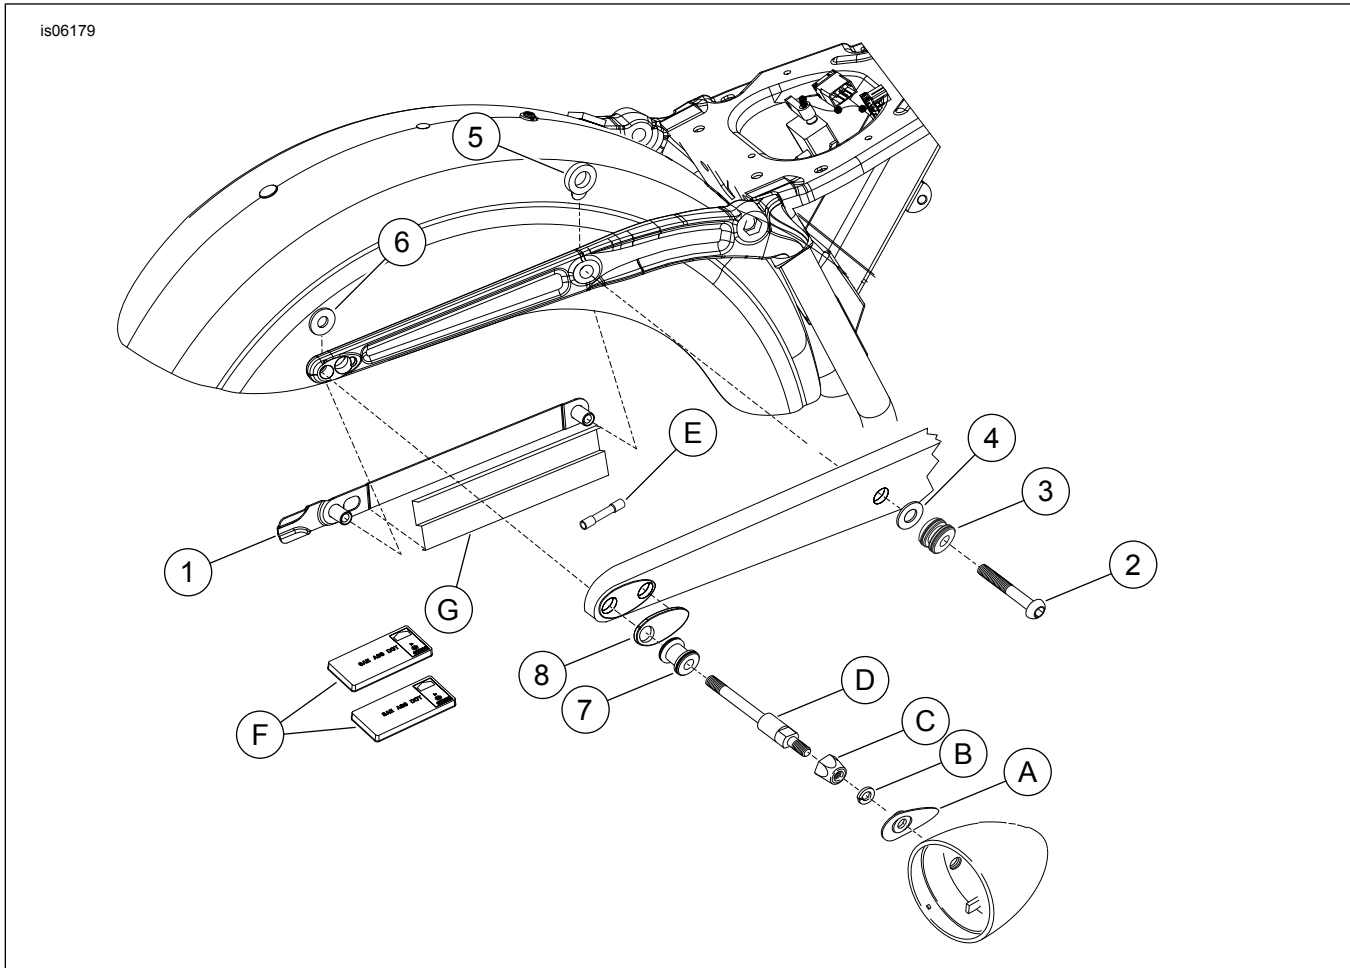

Figure 1. Service Parts: Dyna Docking Hardware Kit
See Figure 1 and Table 1.
1. See Figure 1 and Table 1. Remove the OEM fender bracket, wire channel (G) and turn signal.
2. Place the flat side of front docking point (3) on the screw (2) followed by the washer (4). The tapered side of the docking point is towards the frame rail cover. Remove the adhesive cover from the large spacer (5) and attach the spacer to the mounting hole on the frame rail (between the fender and frame rail). Install the new fender mounting bracket (1) with the wire channel (G) and tighten the screw finger tight.